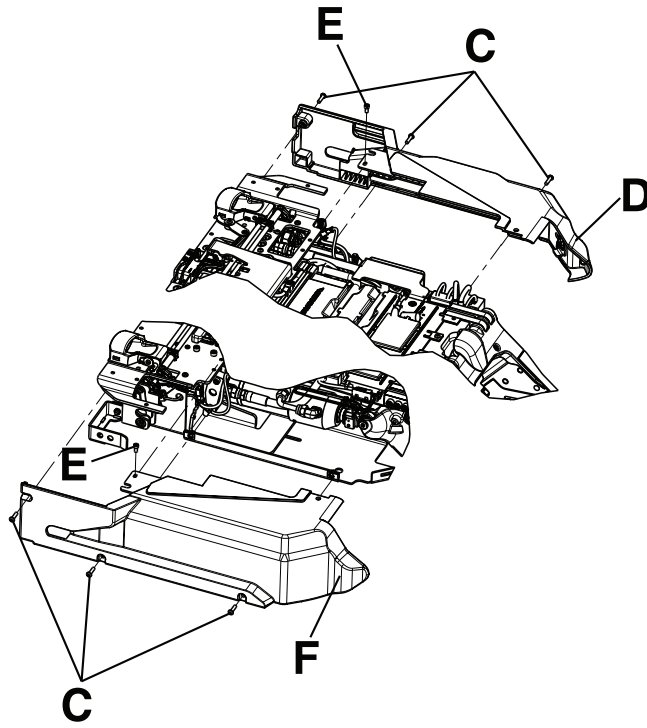

Figure 14 – Trolley side covers
2. Using a T25 Torx driver, remove the three screws (C) left side cover (D) (Figure 14).
3. Using a 5/32" hex wrench, remove one hex head screw (E) from the top of the left side cover (D) (Figure 14).
5. Repeat steps 2-4 to remove the side cover, right (F) (Figure 14).